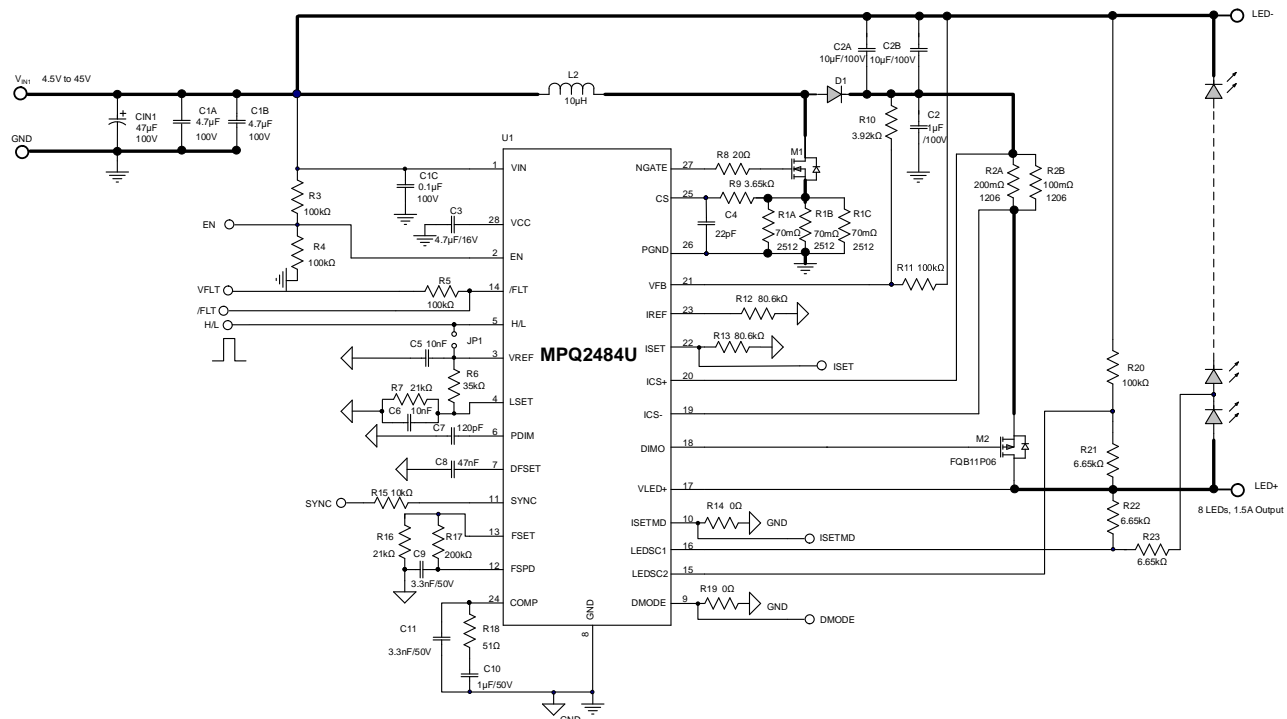
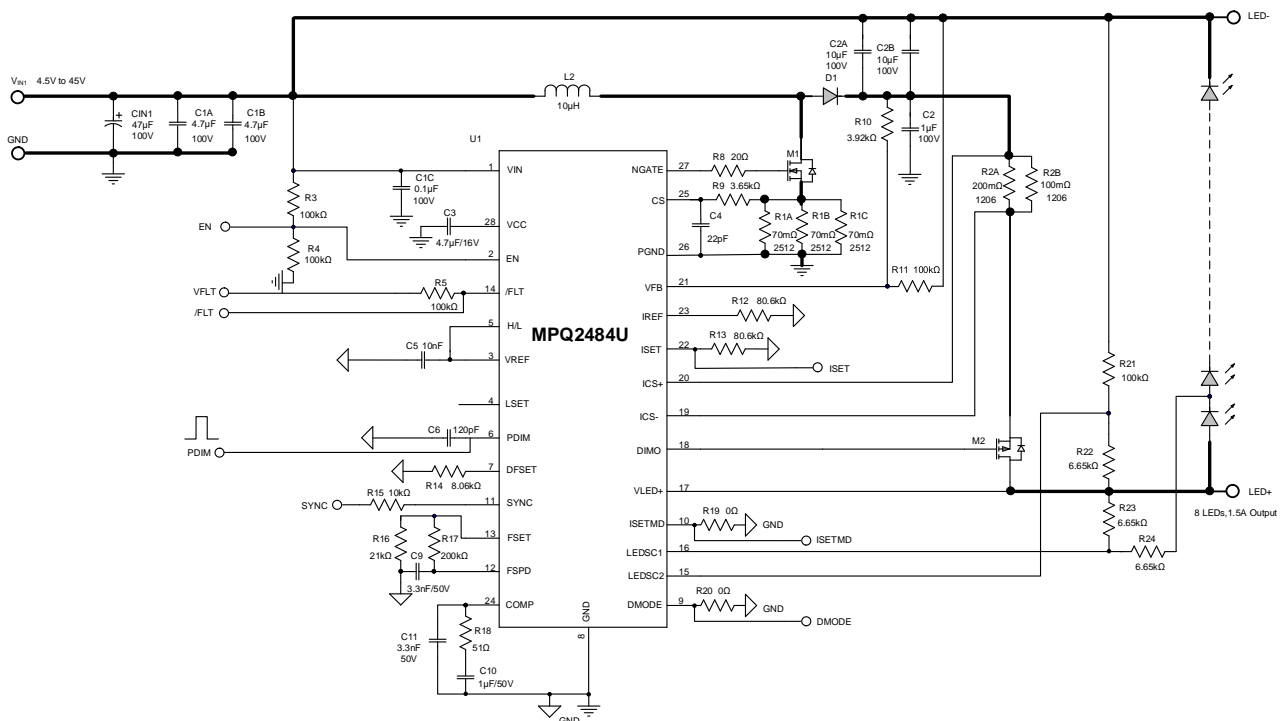
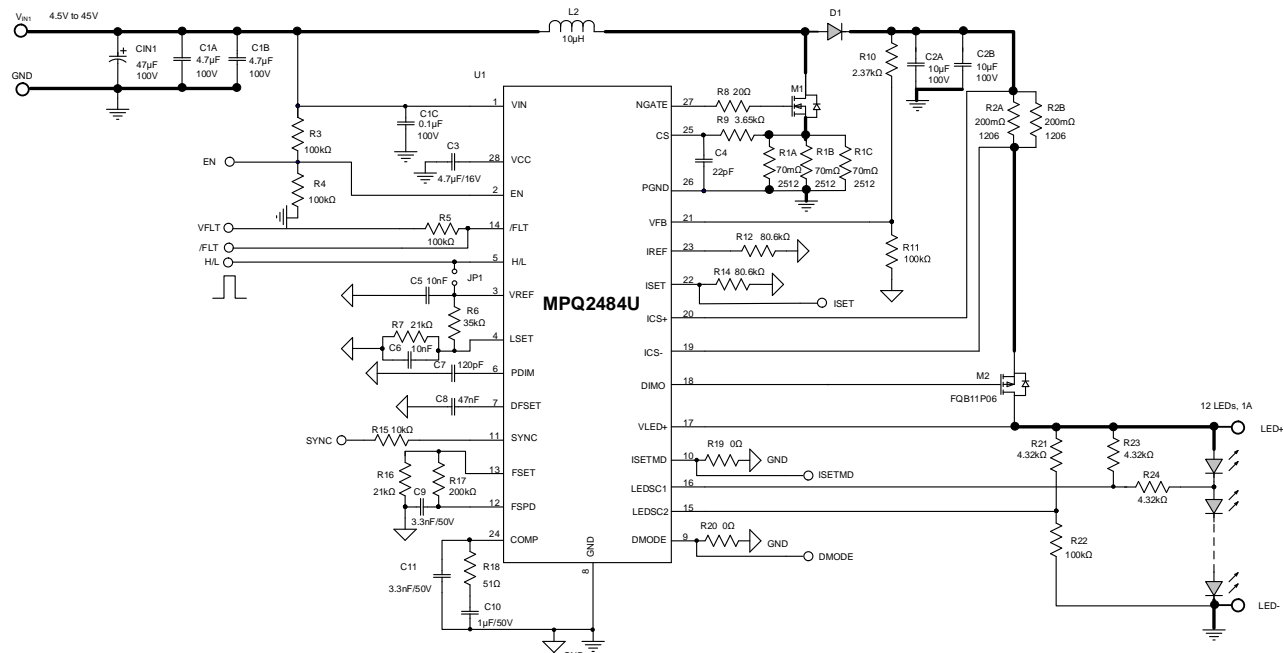

Figure 16: Typical Application Circuit for Buck-Boost Topology (Two-Step Dimming)
Figure 17: Typical Application Circuit for Buck-Boost Topology (PWM Dimming)
Figure 18: Typical Application Circuit for Boost Topology (Two-Step Dimming)
For the applications shown in Figure 16 and Figure 17 on page 54 and in Figure 18 and Figure 19 on page 55, It is recommended follow the guidelines below:
The resistor divider network (R_{10} and R_{11}) connected to ICS+, VFB, and the cathode of the LED string monitors the output voltage (see Figure 16 on page 54).
- 8) The recommended layout is based on Figure 17 on page 54 and Figure 19 on page 55.